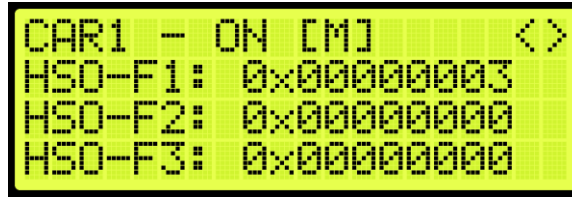

Figure 272: Front Hall Security Map Status
9. From the Front Hall Security Map Status (See Figure 272), press the right button.